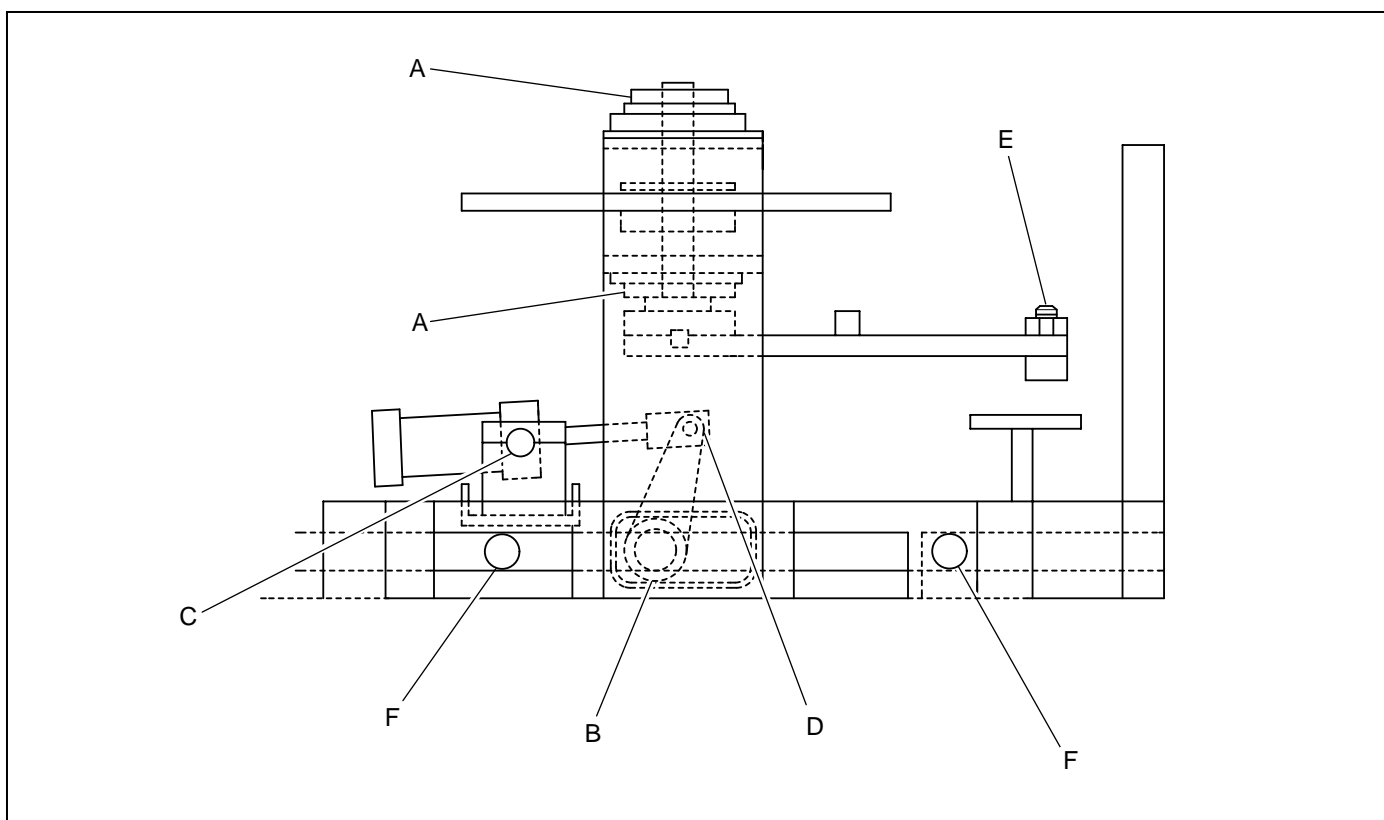
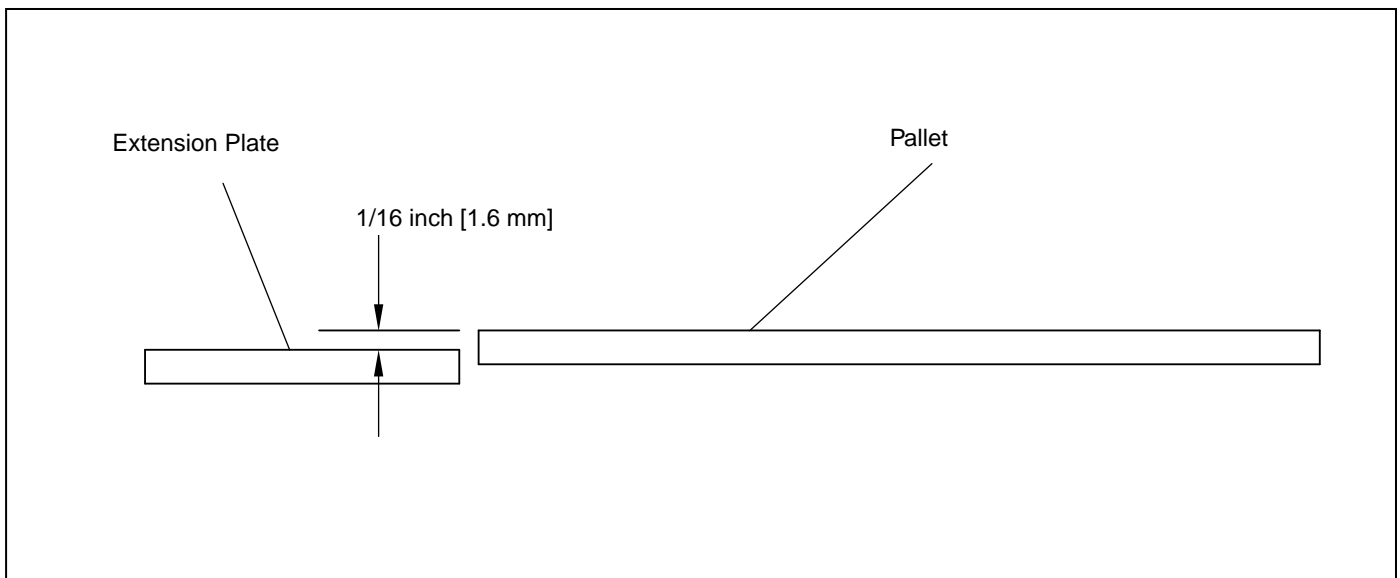

Figure 3.1 *Lubrication Points, Depalleter*
Figure 3.2 Depalleter Height Adjustment
Regularly lubricating the depalleter's moving parts is required to maintain optimum performance. Table 3.2 identifies all depalleter and optional turntable lubrication points. Figure 3.1 shows the location of these lubrication points. Figure 3.2 shows the lubrication points for the optional turntable.
2. Adjust depalleter leg extensions to obtain a 1/16 inch [1.6 mm] drop between the top of the pallet and the top of the extension plate. Refer to Figure 3.2.